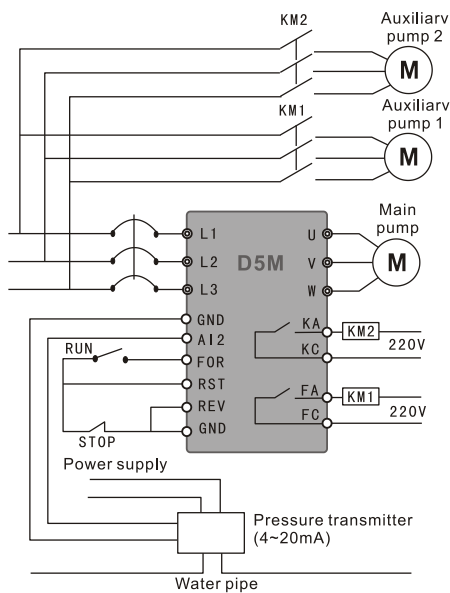

Figure F-7 Single-machine and Multi-pump Wiring Diagram
(3) Wiring diagram and parameters of single-machine and multi-pump are shown in Figure F-7.